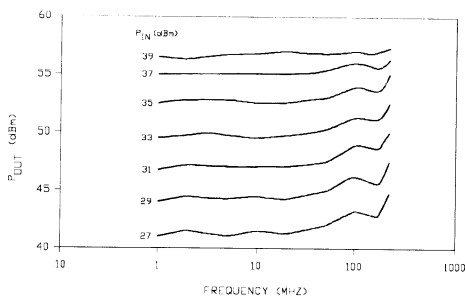

Figure 5
Performance of the single transistor 300 watt amplifier is given in Figure 5. Efficiency is 50 to 60%, and saturated power is up to 400 watts. Flat gain from 1 MHz to 200 MHz was achieved without sacrificing the gain available from the part at 200 MHz. Worst case input return loss was 8 dB, and occurred near 100 MHz, in the transition region between low frequencies, where equation (2) is valid, and the high frequency limit, where the input is matched for power transfer. This return loss can be improved by using a more complex matching network, or by selecting a smaller swamping resistor, reducing broadband gain but making the variation of input impedance with frequency much smaller.